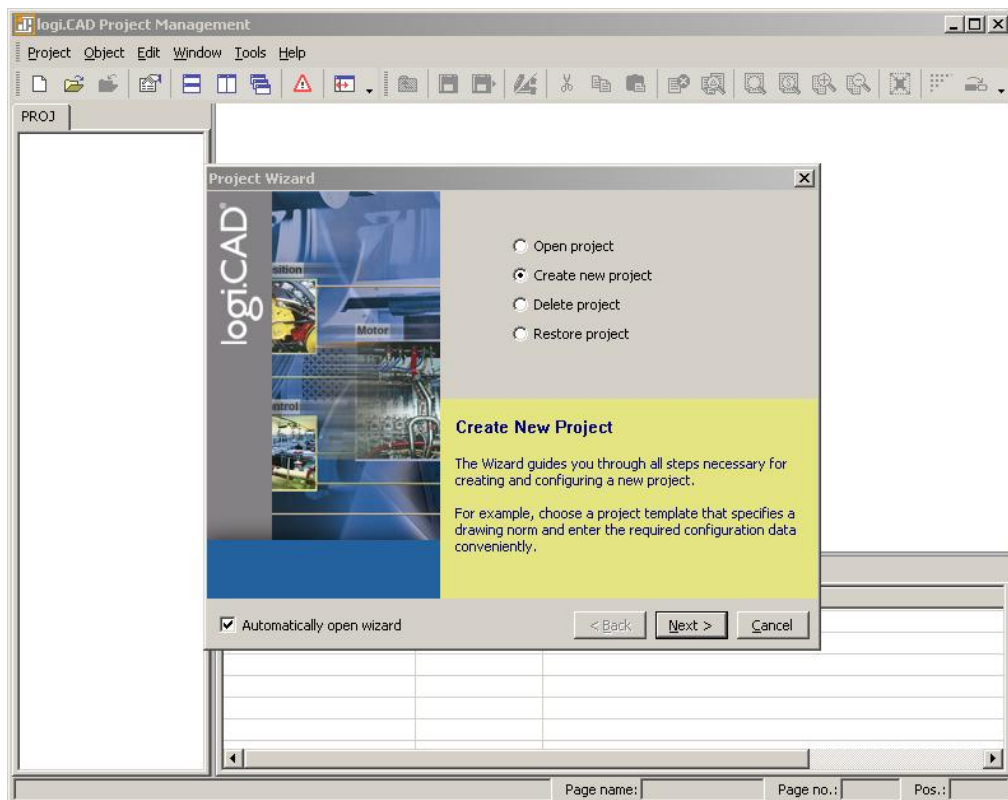

Figure 13: logiCAD project wizard
- Add L-IOB devices on the **LIOB** tab from the supplied L-IOB templates using the **Add Device(s) button** as shown in Figure 13.
- The project wizard starts automatically as shown in Figure 13.